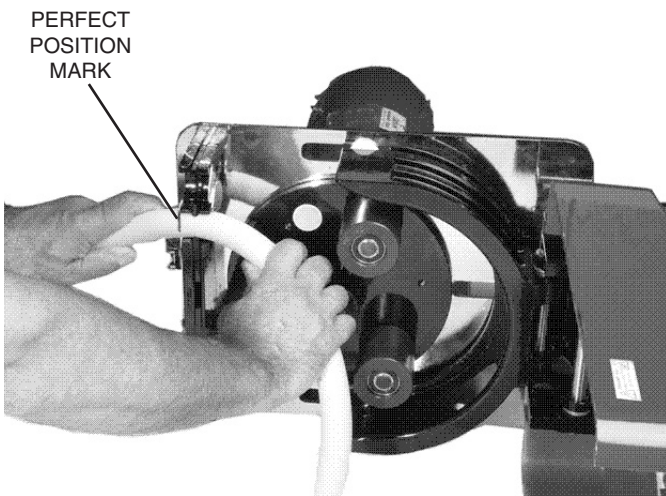

Figure 2. TUBING RETAINING POCKETS
3. Insert the tube in the appropriate upper tube retaining pocket (see Figure 2). Line up the "Perfect position" placement marks printed on the tube with the outside edge of the retainer assembly (see Figure 3).